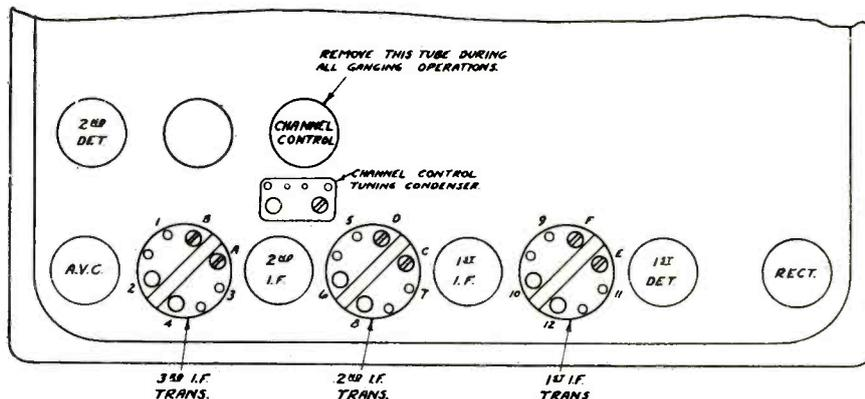

Fig. 2. Bottom view of rear edge of All-American SA-130 chassis
What really happens in this circuit is that as the volume is decreased, the resonant circuit, composed of the air-core inductance and series condenser, starts taking effect, because as the volume is decreased the resistance in the resonated circuit is decreased. The result is that a low-frequency hump appears, similar to the ones shown in Fig. 2. As the volume is increased, the hump is leveled off due to the resistance added between the resonant circuit and the grid of the a-f. tube.
The i-f. system of the receiver consists of two stages peaked at 175 kc. The sketch of Fig. 2 shows a bottom view of the rear edge of the chassis pan and indicates the points at which the 20,000-ohm resistors are to be
(1) Attach one 20,000-ohm resistor across points 1 and 2, as shown in Fig. 2. (This is done by bending ends of resistor leads to form plugs and inserting one lead into one of the small eyelets of 1 and the other into the large eyelet of 2.)
(2) Adjust screws "A" for maximum output.
(3) Remove resistor from 1 and 2 and connect across points 3 and 4.
(4) Adjust screw "B" for maximum output. (Resistor must be left connected across